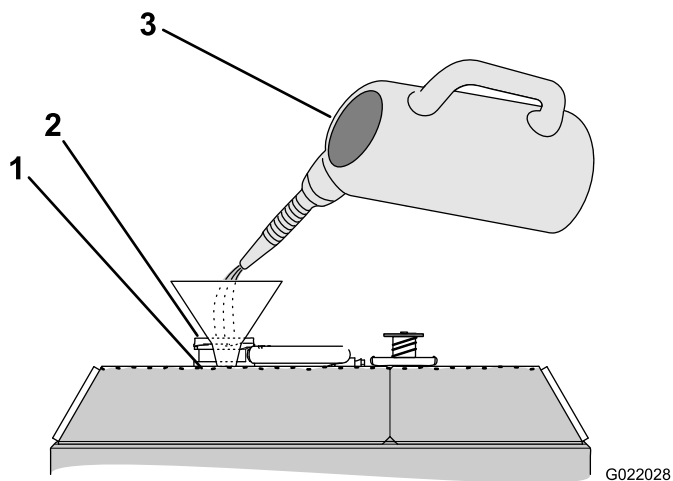

Figure 143
3. Fill the radiator with coolant until the fluid level is up to the bottom of the filler neck (Figure 143).